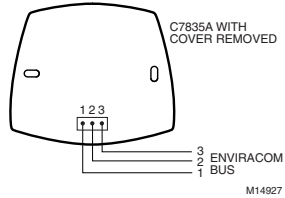

Fig. 4. DATS wiring to Enviracom™ bus.
5. Connect the three DATS terminals, see Fig. 4, using standard thermostat wire, to any convenient Enviracom 1,2, and 3 terminal connection. Observe that the red heating and green cooling lights come on momentarily.